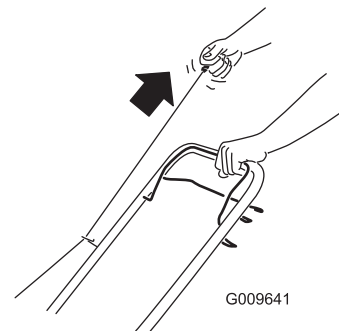

Figure 14
2. Pull the recoil-start handle (Figure 14).
**Note:** When you pull the recoil-start handle, pull it lightly until you feel resistance, then pull it sharply (Figure 14). Allow the rope to return to the handle slowly.